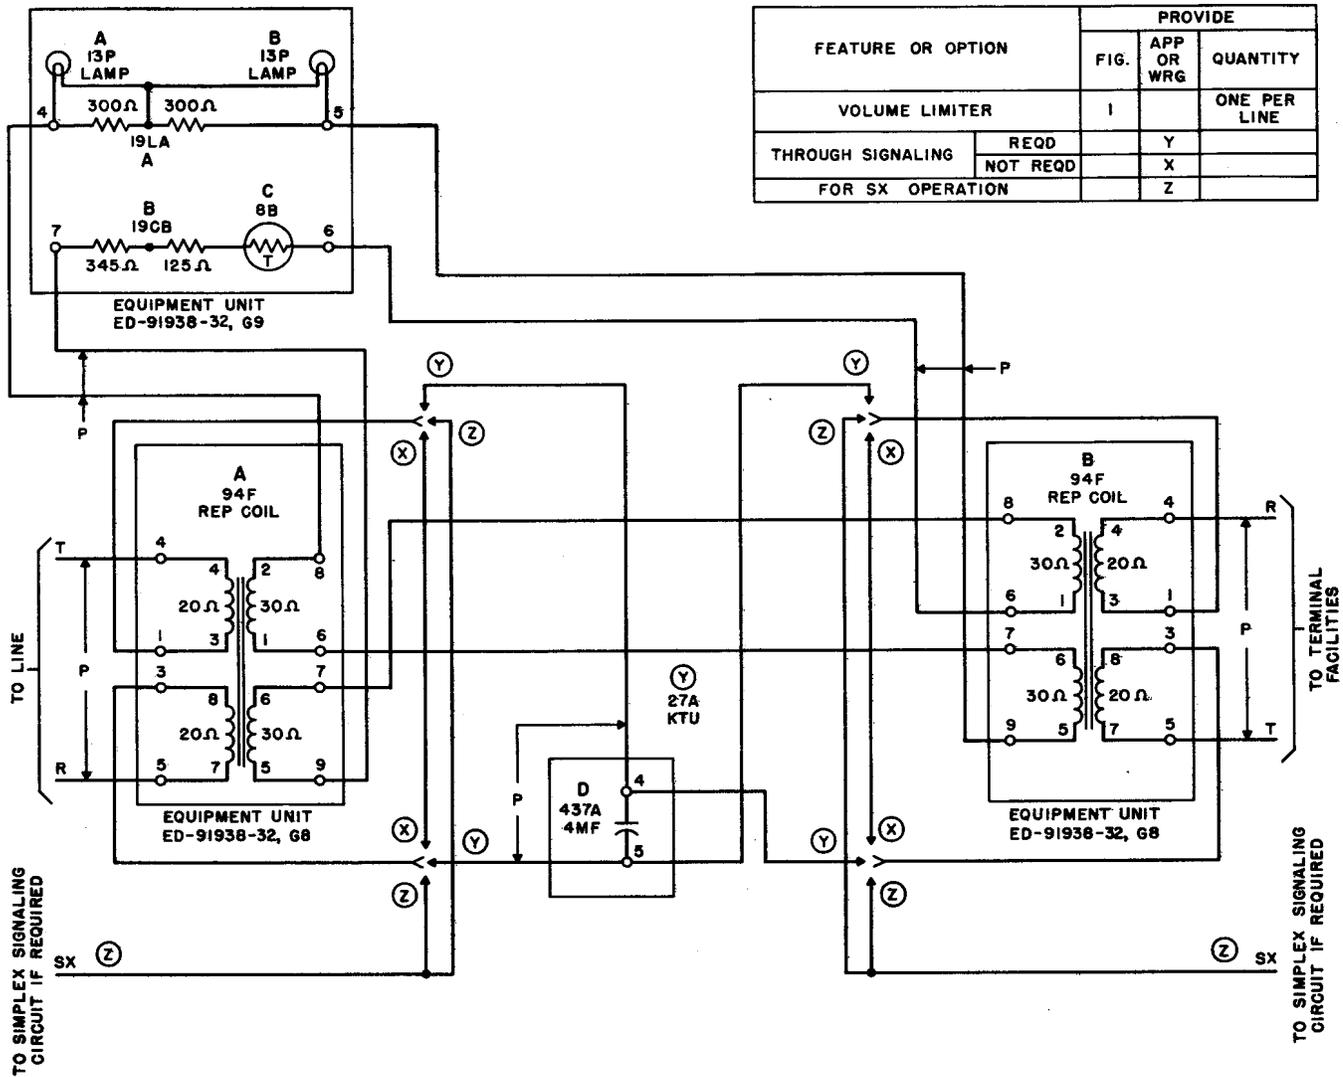

Fig. 2 — Bridge-type Volume Limiter
**3.01** The volume limiter is a hybrid coil arrangement consisting of two repeating coils, two resistance lamps, a thermistor, and two resistors. A schematic circuit of the arrangement is shown in Fig. 2.
3.04 In a few special cases, the circuit to which the volume limiter is connected may be used to transmit dial pulses or 20-cycle signaling. In such cases, a 4-uf capacitor is connected between the 94F repeating coils as indicated by Y wiring in Fig. 2. Under that arrangement the limiting action at 60 cycles or less is largely eliminated. But the losses and limiting characteristics are not affected above 300 cycles.
**3.05** When employing Y wiring (Fig. 2), the input voltage should not exceed 80 volts in order that the maximum safe operating voltage across the resistance lamps will not be exceeded.
**3.08** A simplex signaling terminal, Z wiring (Fig. 2), is provided on the repeating coils for cases where the volume limiter is used on a line which is arranged for simplex operation.
Make connections between key telephone units, and terminate lines as in Fig. 2.